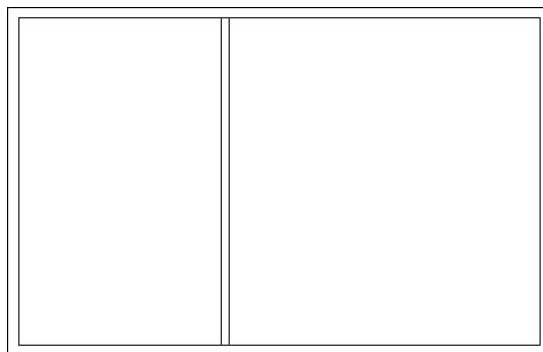

FIGURE 4.9: The first interior wall
7. Click the new line that was just offset, and then click in a blank area to the right of that line. You have created a vertical interior wall (see Figure 4.9). Press \downarrow twice to stop and restart the Offset command.